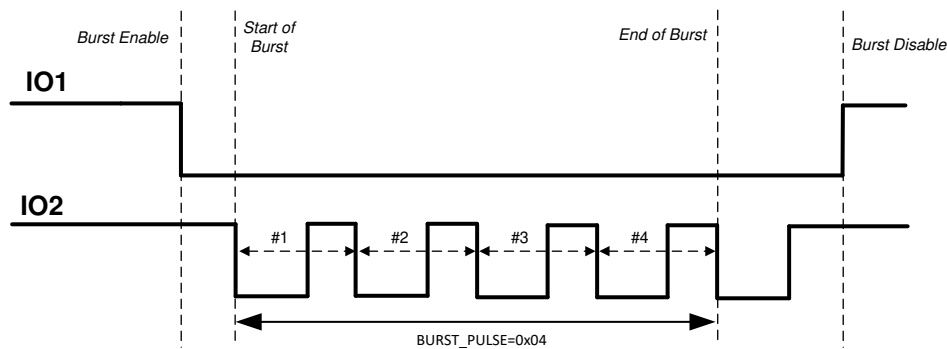

图 7-2. IO_MODE 1 Description
- IO_MODE = 1:** In this mode, the external clock for the transducer is applied at the IO2 pin and the burst mode is enabled when IO1 pin transitions low (see 图 7-2). The device then expects a clock at IO2 pin to generate pulses on the OUTA/OUTB pins. The start of burst happens from the first falling edge of IO2. The number of pulses are counted by counting falling edge to next falling edge transitions on IO2 once the start of burst is triggered. End of burst sequence is signaled when the number of pulses defined in BURST_PULSE are sent or IO1 transitions high, whichever occurs earlier. TI recommends that IO2 is held high before start of burst to count the number of pulse correctly. After the start of burst, the state of OUTA and OUTB pins are determined by IO1 and IO2 pins. A transition of IO1 from low to high to low again is required to initiate a new burst sequence.